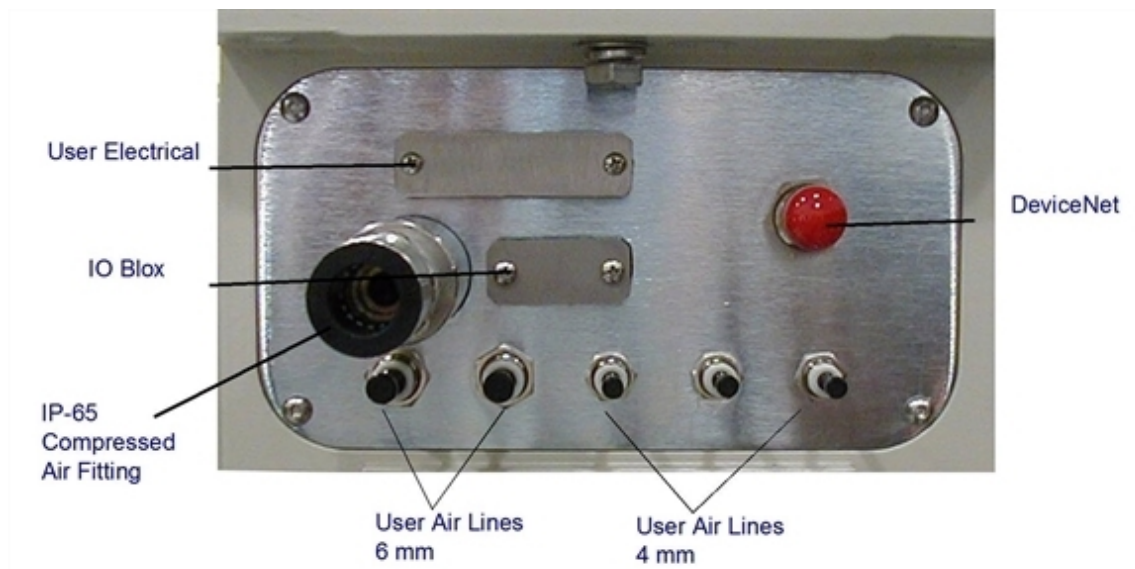
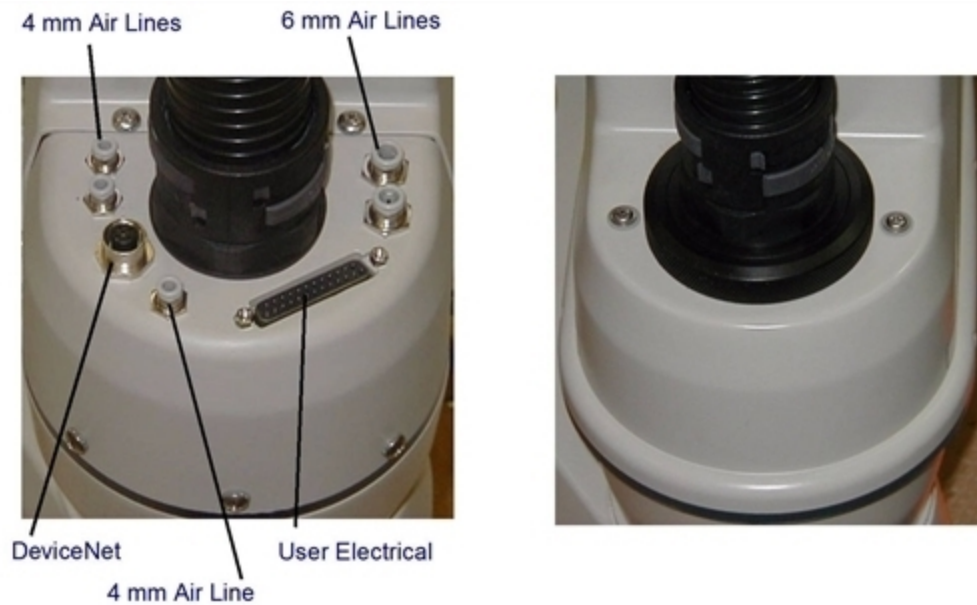
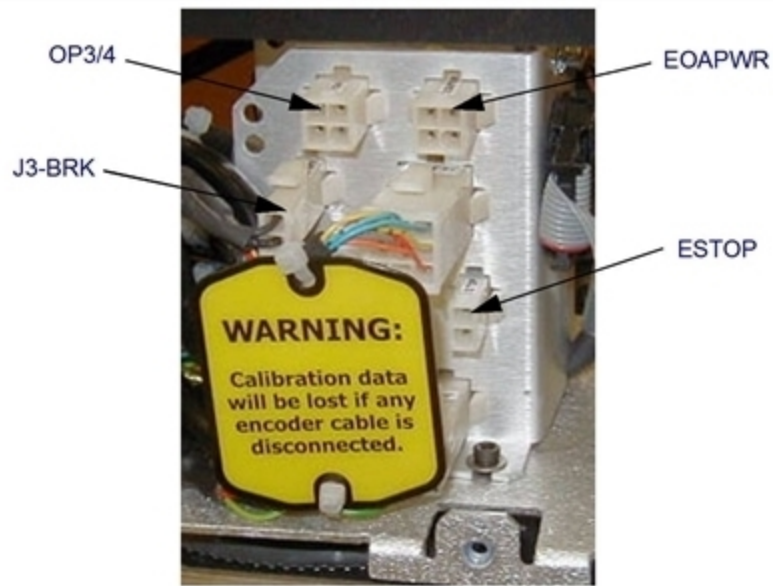

Figure 6-3. User Connector Panel, IP-65 version
Figure 6-4. User Connectors on standard Joint 2. IP-65 Joint 2 on right.
Figure 6-5. Internal User Connectors - OP3/4, EOAPWR, ESTOP
There are five user air line connectors on the robot user panel on the back of Joint 1—see Figure 6-3. The five air lines run through the robot up to another set of five matching connectors on the top of the outer link—see Figure 6-5.
**NOTE:** The connectors shown in Figure 6-4 are not available on the outside of this link for the IP-65 version Cobra s800 Inverted. Refer to User Connectors on page 133.
There is a 25-pin male connector (24 conductor) on the robot user panel on the back of Joint 1 for user electrical lines (see Figure 6-3). This connector is wired directly to a 25-pin female connector on the top of the outer link (see Figure 6-4). These connectors can be used to run user electrical signals from the user panel, through the robot, and up to the outer link.
**NOTE:** The connectors shown in Figure 6-4 are not available on the outside of this link for the IP-65 version of the Cobra s800 Inverted. Refer to User Connectors on page 133.
The internal user connectors, OP3/4, EOAPWR, and ESTOP, can be accessed with the outer link cover removed—see Figure 6-5. The SOLND connector is located on the opposite of the bulkhead area—see Figure 6-6.
This 4-pin connector (see Figure 6-5) provides the output signals for a second set of optional robot valve solenoids, or other user-supplied devices. For details, see the following table and Figure 6-7.